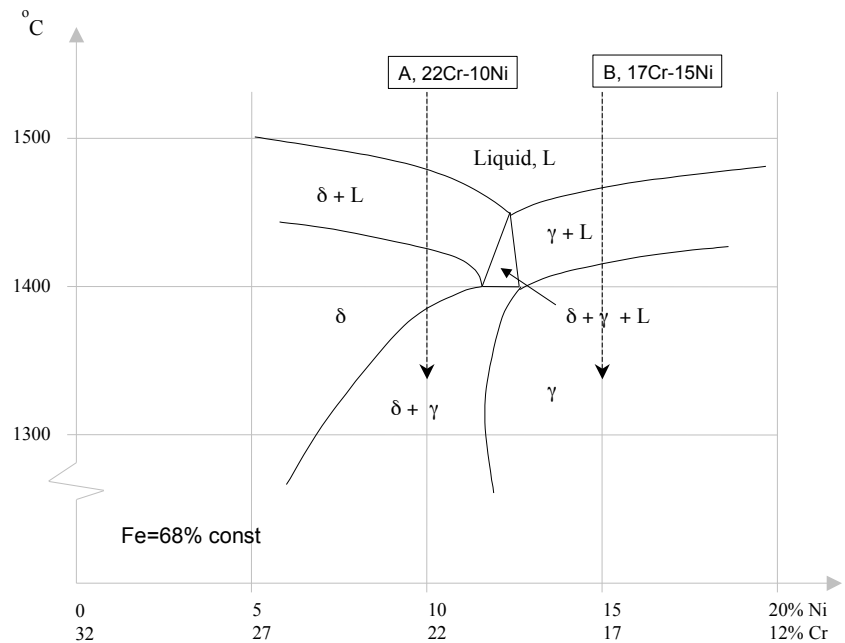

Figure 2. Cr-Ni-Fe diagram.  $\gamma$  = austenite,  $\delta$  = ferrite
Consider the phase diagram for Iron-Chromium-Nickel as shown in figure 2. Note that if we follow the composition 22% Cr-10% Ni (A) during cooling from liquid to room temperature, the first phase formed is delta. This is a ferritic phase also called delta-ferrite. At about 1400 °C, the melt is fully solidified and the phase present is delta-ferrite. Below this temperature, some of the delta-ferrite will be transformed to the